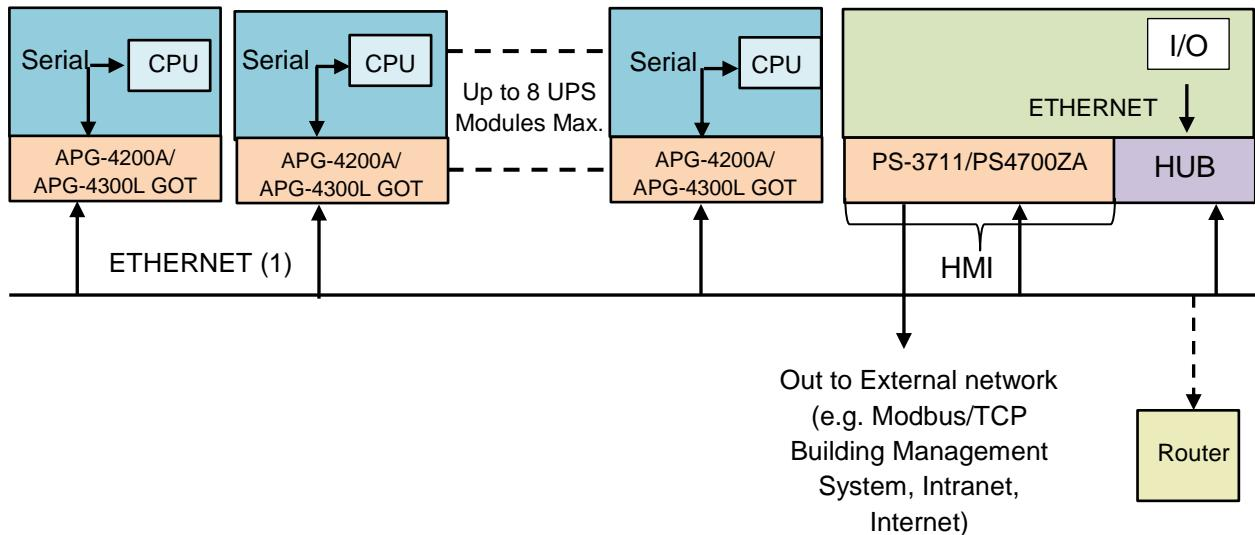

Figure 34: UPS MMS Monitoring System Configuration Block Diagram
***Note:** 1) Target name and IP Address allocation for each MMS Monitoring System GOT device (CLC PS3711A and each UPS Module AGP-4200A/AGP-4300L GOT) will be default for Mitsubishi Electric standard system Ethernet (1) network configuration. Ethernet (2) network configuration is configurable (e.g. DHCP). For specific Customer IT department system configuration and interface, contact Mitsubishi Electric for details. Refer to the following. UPS MMS Monitoring System Graphic Operator Terminals for Mitsubishi Electric Default Target Names and IP Address allocation.
2) Router and associated set-up and security are Customer Scope of work. Refer to Web Monitoring Function. See Figure 34.